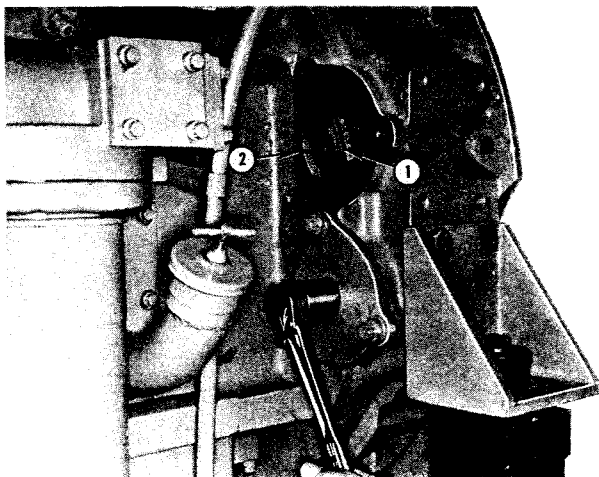

Fig. 2-61, (K21919). Engine barring device
3. When barring the engine from the left bank at the flywheel housing "C" VS timing marks on the flywheel (1, Fig. 2-61) must align with the scribe.